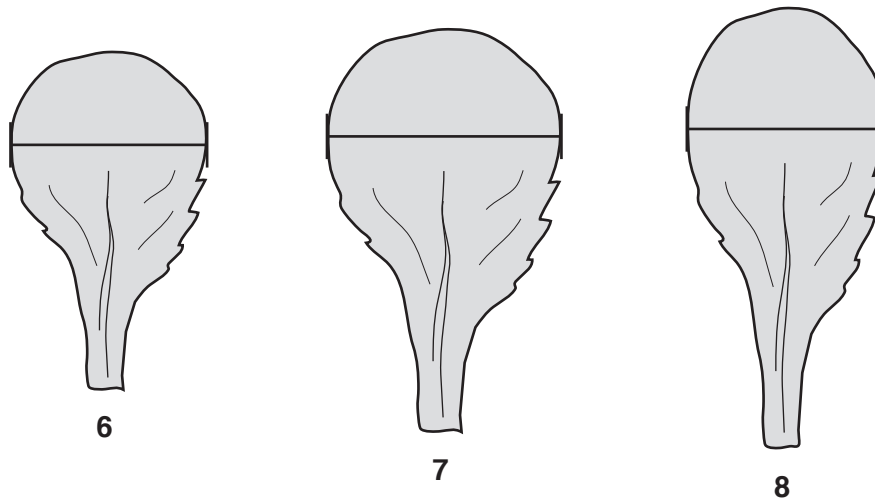

Fig. 2.1
The results for three leaves grown in high light intensity are shown in Fig. 2.1. The horizontal line on each leaf indicates its maximum width.
- (a) (i) Measure the maximum widths of leaves **6**, **7** and **8** in Fig. 2.1 and record these values in Table 2.1.